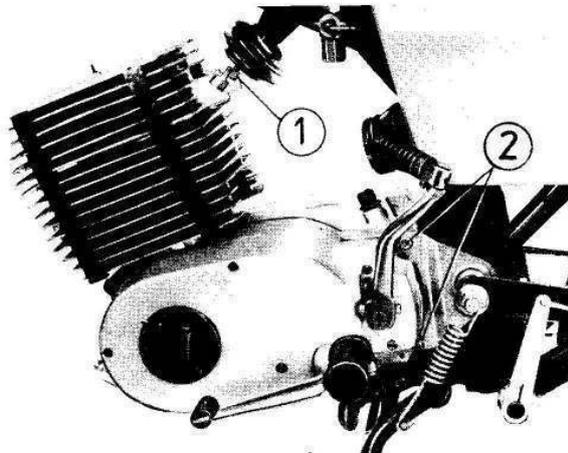

Fig. 12. Dismantling the engine or replacing the cylinder
The cylinder head, the cylinder and the elastic engine suspension can be changed in the position shown in Fig. 12. For the replacement of the cylinder, the electric horn (1) and the fuel tank must be removed. For changing the fuel tank, see Section 5.4.